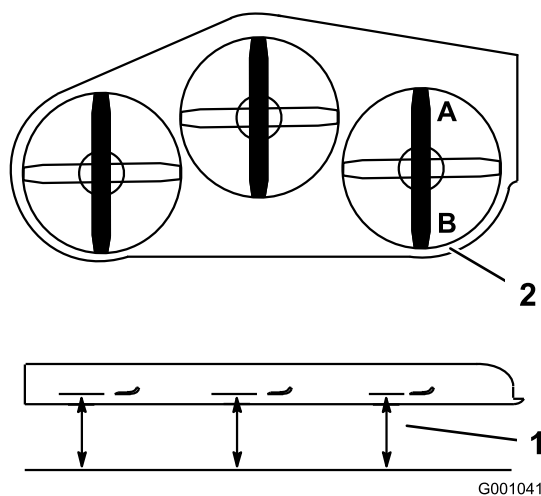

Figure 93
2. Position 1 blade front-to-rear. Measure at **A** and **B** locations from a level surface to the cutting edge of the blade tips (Figure 93).